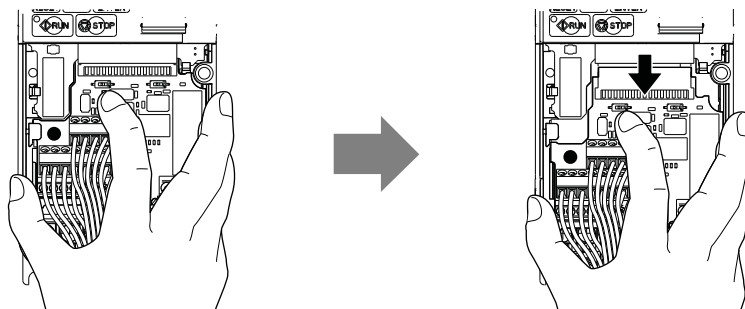

Figure 7.7 Removing the Terminal Board
4. While holding down the locking pin from step 3, slide the removable terminal block in the direction of the arrows in Figure 7.7.